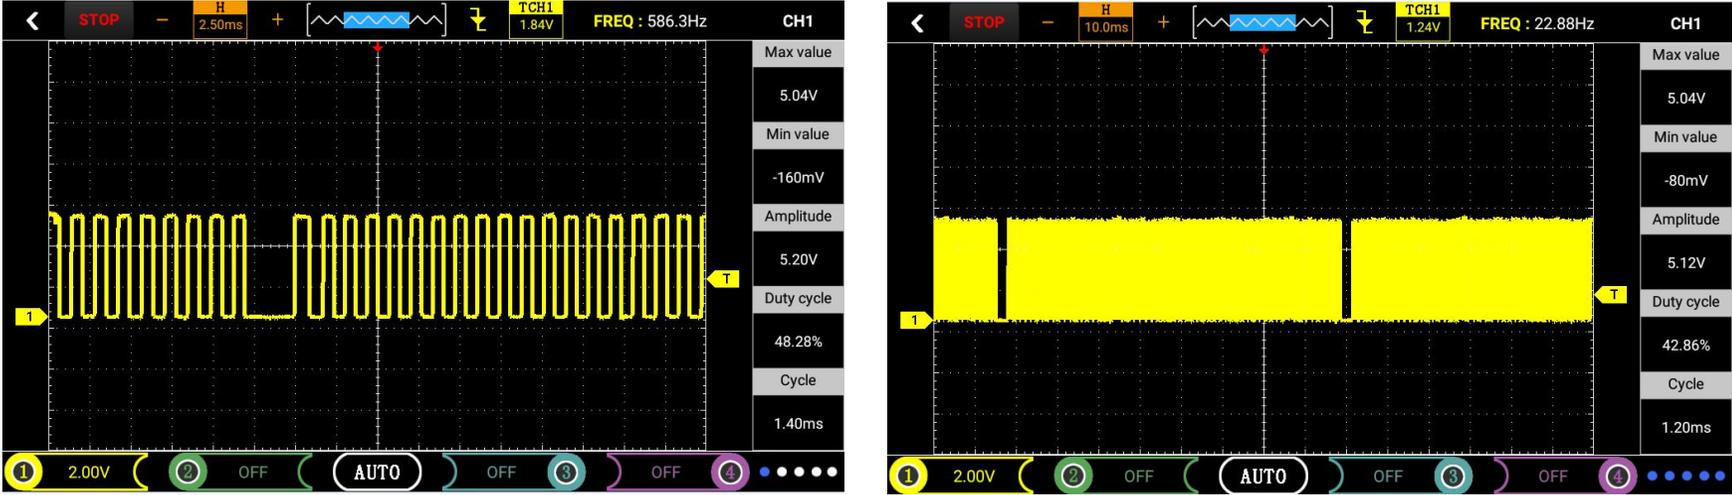

Figure 11
- ③ Connect the probe to the oscilloscope CH1 and set the probe to bonding.
- ④ Since the “Magnetic” and “Hall” functions of the oscilloscope have been set by default (probe 1X, time base 10.0ms), simply by connecting the probe to the corresponding signal, the waveform can be displayed intuitively, as shown in Figure 11.
- ⑤ Click CH1 to view the various numerical configurations (the configuration is already default).
- ⑥ The displayed waveform can be self-determined by adjusting the time base, vertical volts/div, and triggering mode (for time base, vertical volts/div, and other specific operations, refer to General Oscilloscope Operation).